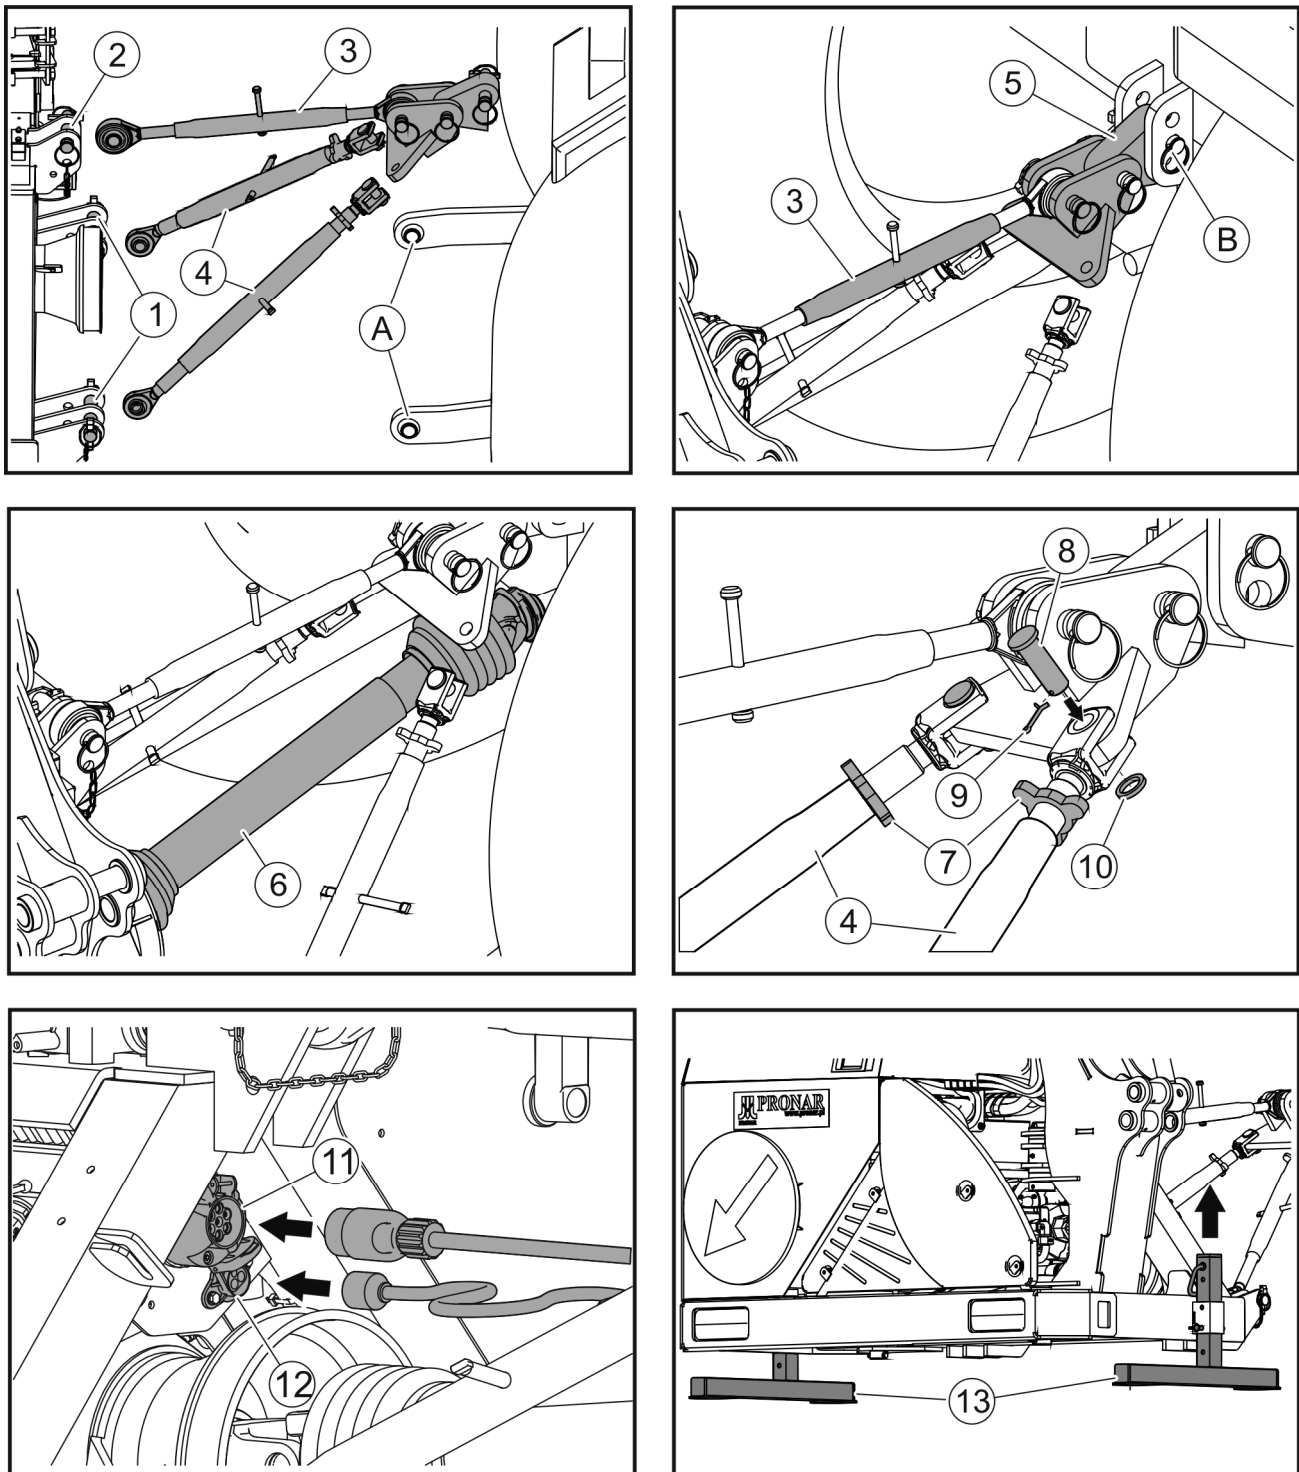
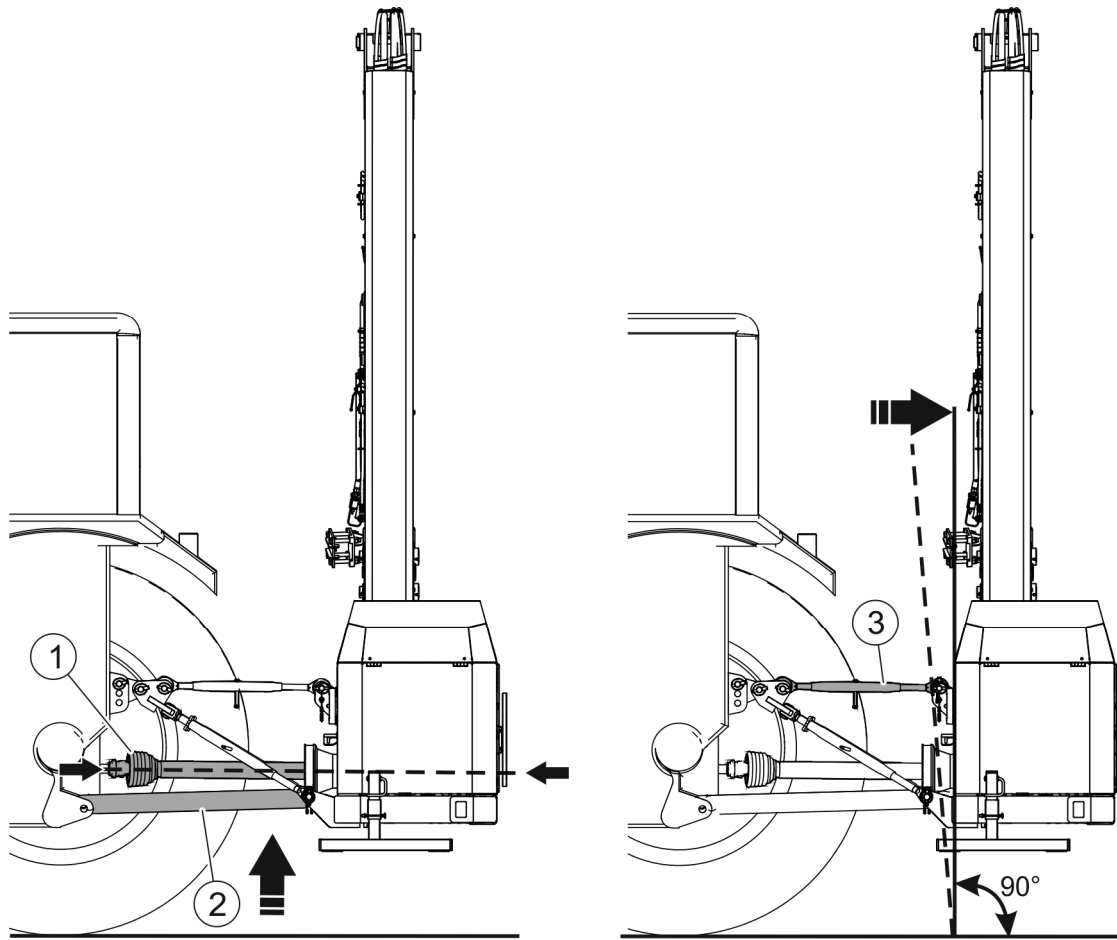

FIGURE 4.1 Hitching the multifunction arm to the carrier vehicle (tractor).
FIGURE 4.2 How to position the multifunction arm in relation to the ground.
In order to hitch the multifunction arm to the carrier vehicle's (tractor) rear three-point linkage, adhere to the following guidelines (FIGURE 4.1):
- When links (4) of the three-point linkage lock system are unlocked (FIGURE 4.1), raise the multifunction arm by means of lower links (2) (FIGURE 4.2) of the rear three-point linkage of the carrier vehicle (tractor) to such a height that drive shaft (1) connecting the multifunction arm's multiplier gear box with PTO shaft of the carrier vehicle (tractor) is positioned horizontally with regard to the ground. Both lower links (2) of the rear three-point linkage of the carrier vehicle (tractor) should be positioned at the same height with regard to the ground.
(1)- drive shaft; (2)- lower links of the carrier vehicle's (tractor) rear three-point linkage; (3)- central link of the three-point linkage lock system.
- Level the multifunction arm by adjusting the length of central link (3).
- Lock the three-point linkage by fixing the fork of links (4) (FIGURE 4.1) to the bracket of the three-point linkage lock using pins (8). Secure the pins with cotter pins (9). Lock the set length of links (4) of the three-point linkage lock by means of lock nuts (7).
- Connect 7-pole electric socket (11) (FIGURE 4.1) of the power supply system of rear lamp assembly and 3-pole electric socket (12) of power supply system of the multifunction arm's oil cooler fan and power supply of the control panel (WWT604D)